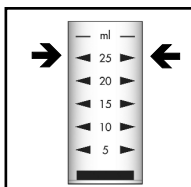

Figure 1
2. Fill the sample cup to the 25 mL mark with the sample to be tested (fig 1).